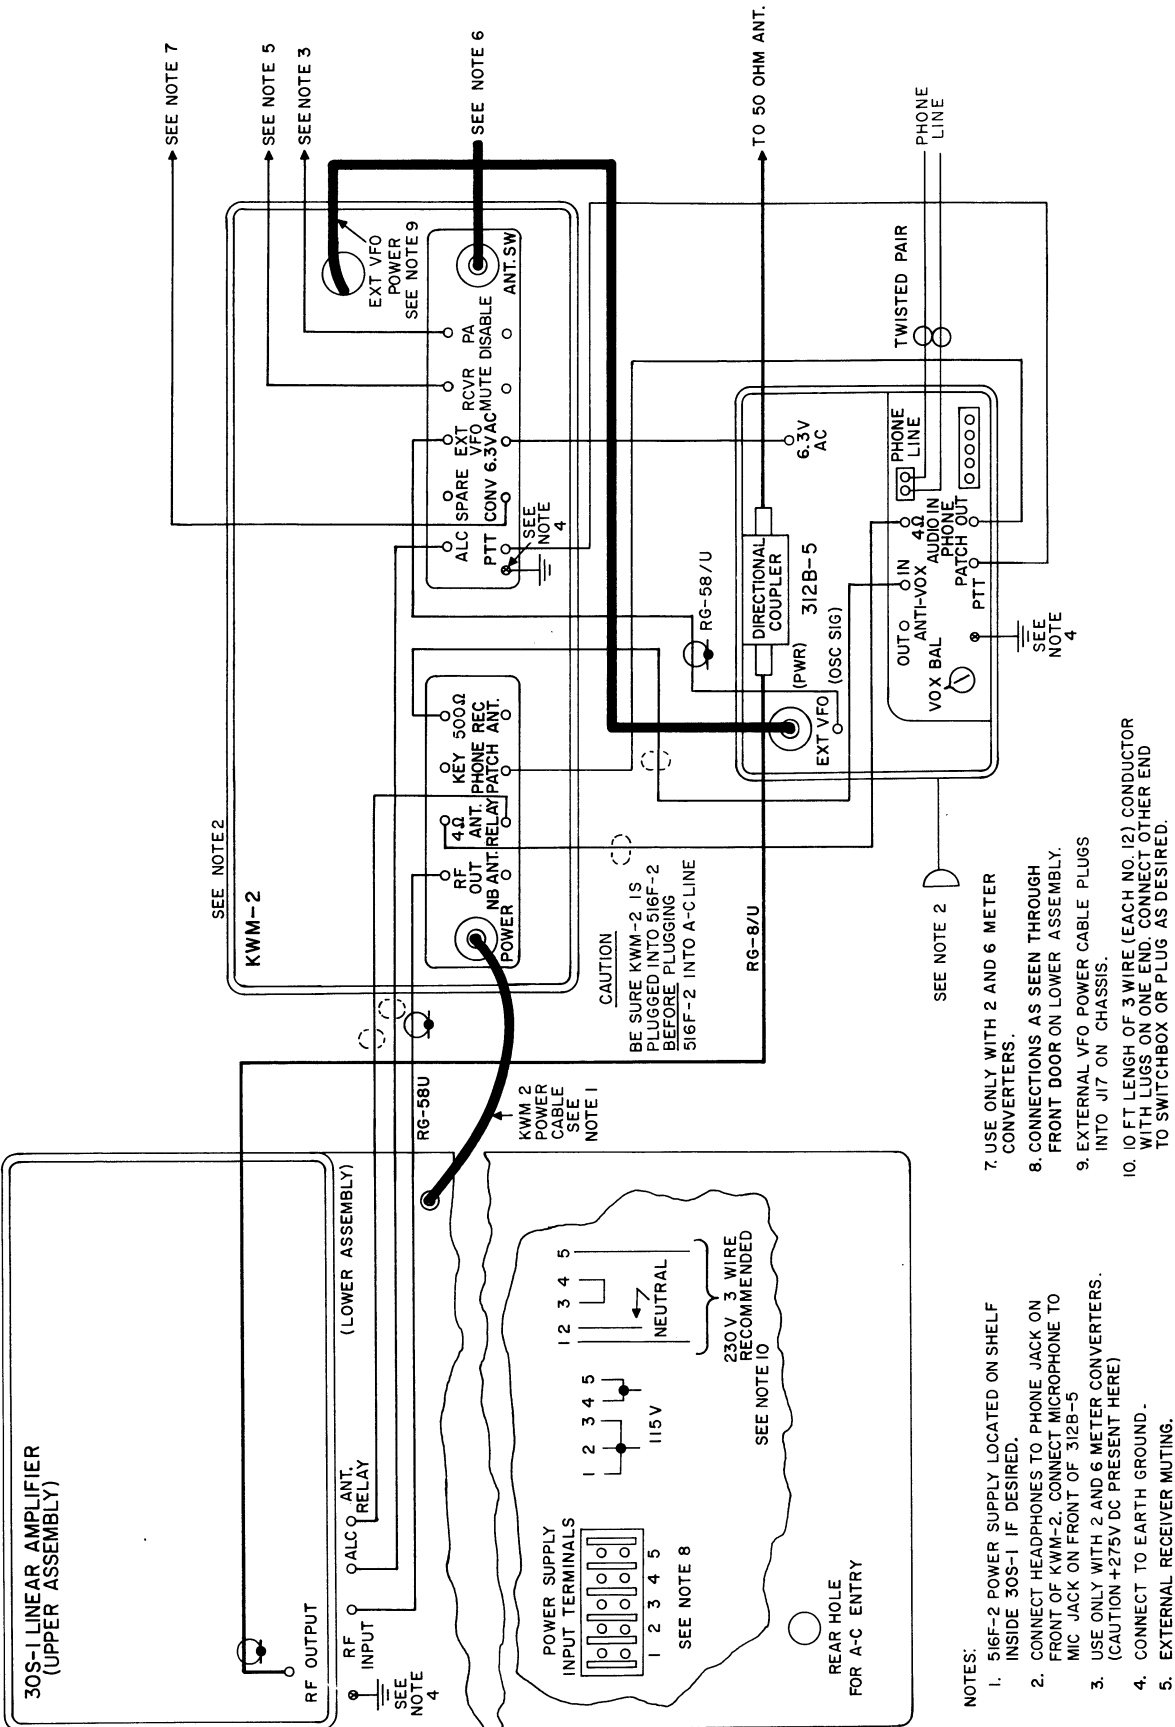

Figure 2. Station Interconnections with KWM-2
i. If the exciter power supply is preferred on the operating desk, disregard note 2 of figure 1 and note 1 of figures 2 and 3.